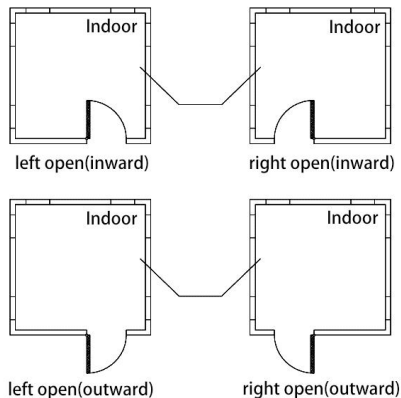

Figure 1
(1) this lock is fit for the boors which thickness is between 35~50mm, if doors' thickness is beyond the range, please inform us before you make your order.
(2) when you install this lock, lock's central point must 1 meter away from the ground.
(3) please confirm the way you want open the door and lock body's position. There are 4 ways you can open the door: Left inward、left outward、right inward、right outward, if a person stand outside the door, door's axle on this person's left side means this door is left open , on right side means right open , if this person need open the door by pushing it, then it is inward door , need open the door by pulling, then it is outward door. Show as Figure 1